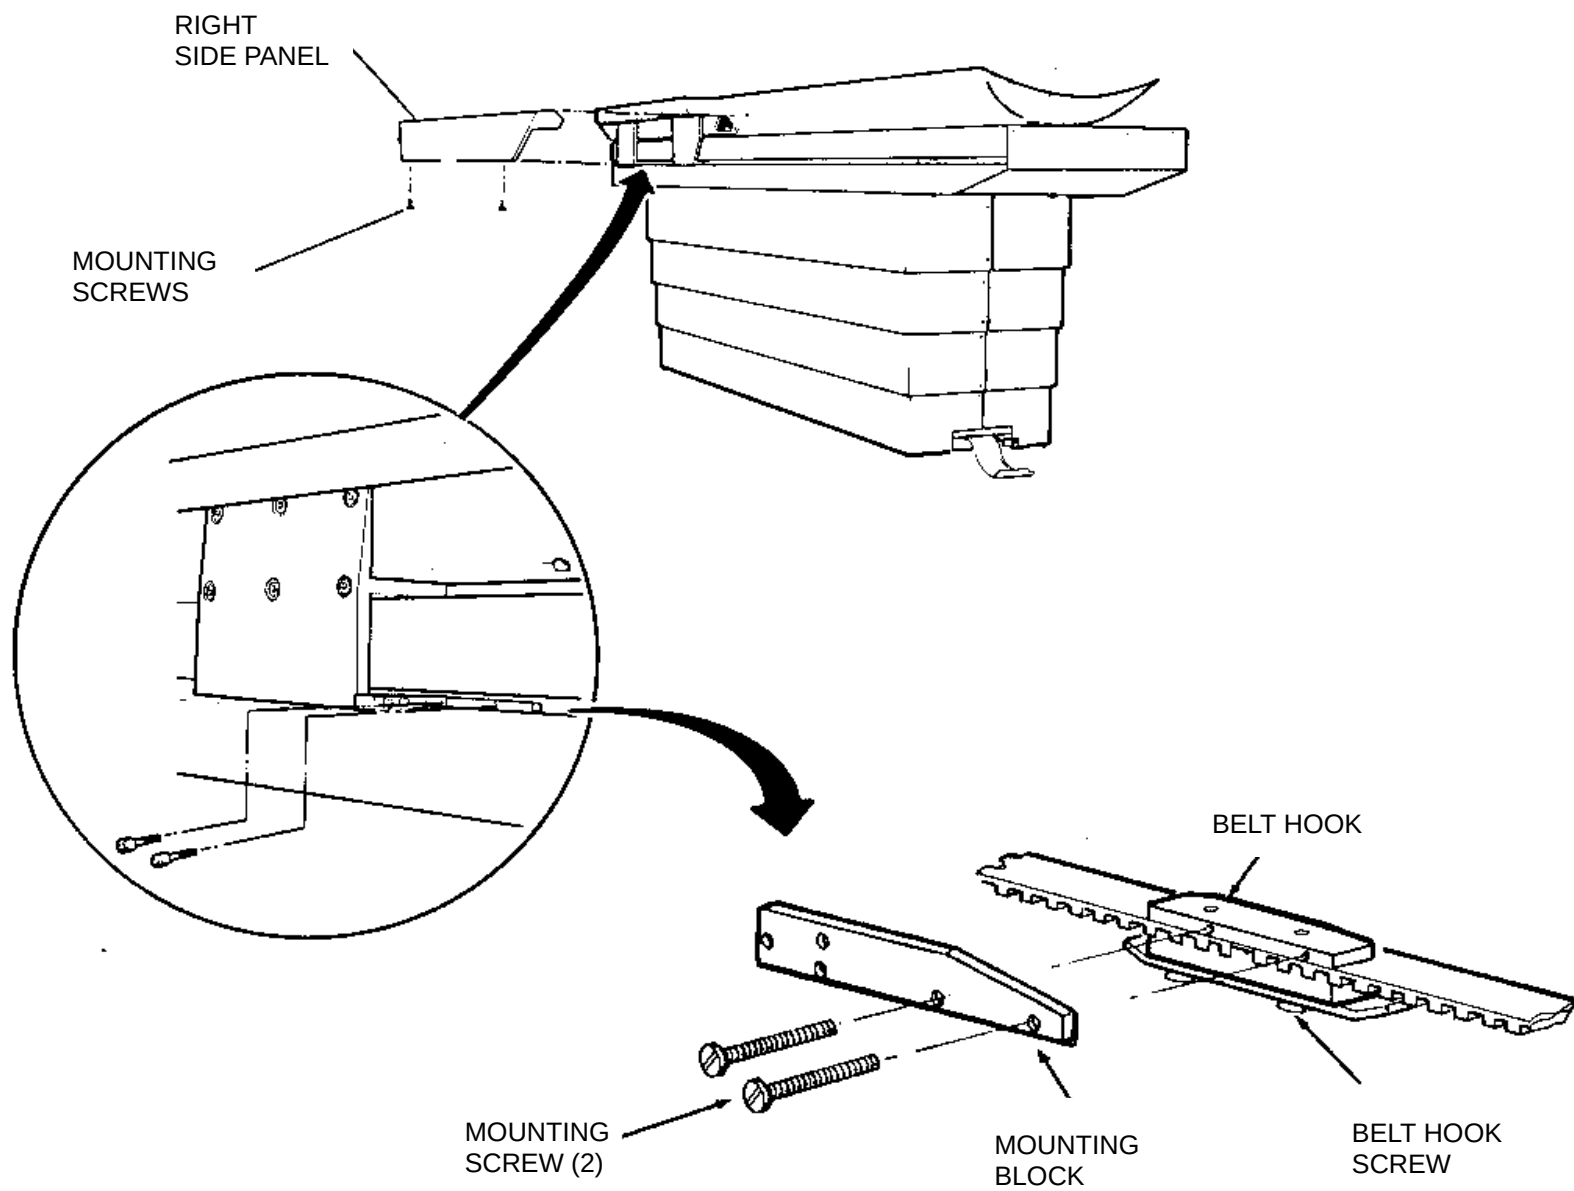

FIGURE 88 HORIZONTAL DRIVE BELT BLOCK
6. Disconnect the horizontal drive belt block from the table top. See Figure 88.
9. Reconnect the horizontal drive belt block to the table top. See Figure 88.